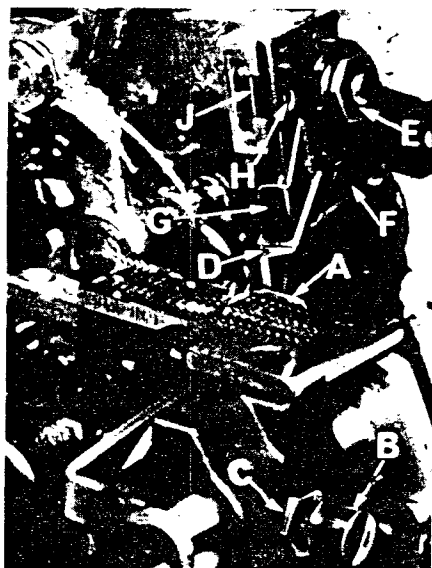

Fig. 13
Replace lower knife holder assembly. Lower knife (A, Fig. 13) should be set with cutting edge flush with throat plate surface. Adjustments are made with hexagonal head screw which holds lower knife. Lower knife is spring pressed against upper knife, so no lateral adjustment is necessary when width of trim is changed.
Replace upper knife assembly. Clamp upper knife (D, Fig. 13) in position, setting nut (E) to hold clamp (F) in its most clockwise position against upper knife. At bottom of its stroke, front cutting edge of upper knife should extend not less than $\frac{1}{64}$ inch (.40 mm) below cutting edge of lower knife. The chain guard (G) should be set down against the upper knife and slightly